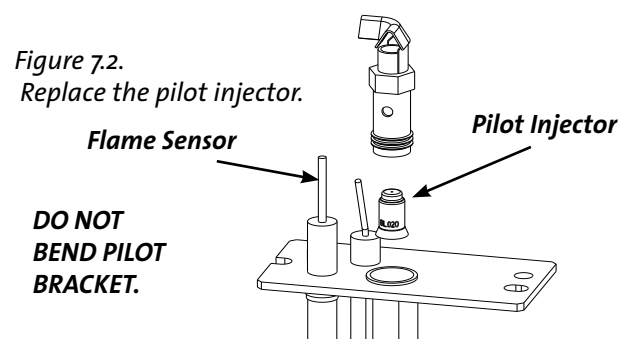

Figure 7.2. Replace the pilot injector.
- Use the 7/16" wrench to loosen the pilot head base enough to adjust the orifice conversion shutter. **Grasp the pilot bracket with pliers or vice-grips to prevent it from bending out of alignment.** See fig. 7.2. Install the new injector oriented as shown.